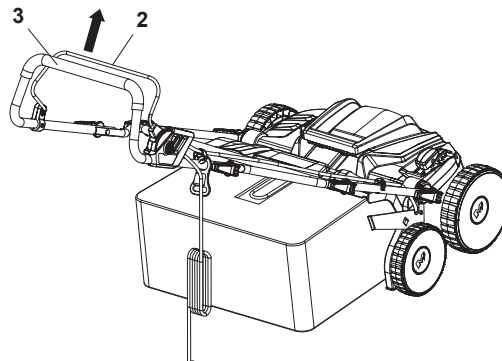

Fig. 14
1. Release the start levers (2) to stop the machine (Fig. 14).